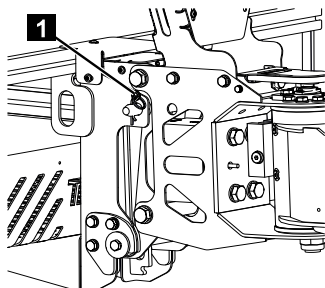

Fig. 153
3. Pull the cotter pin (Fig.153/1) out of the basket locking pin.